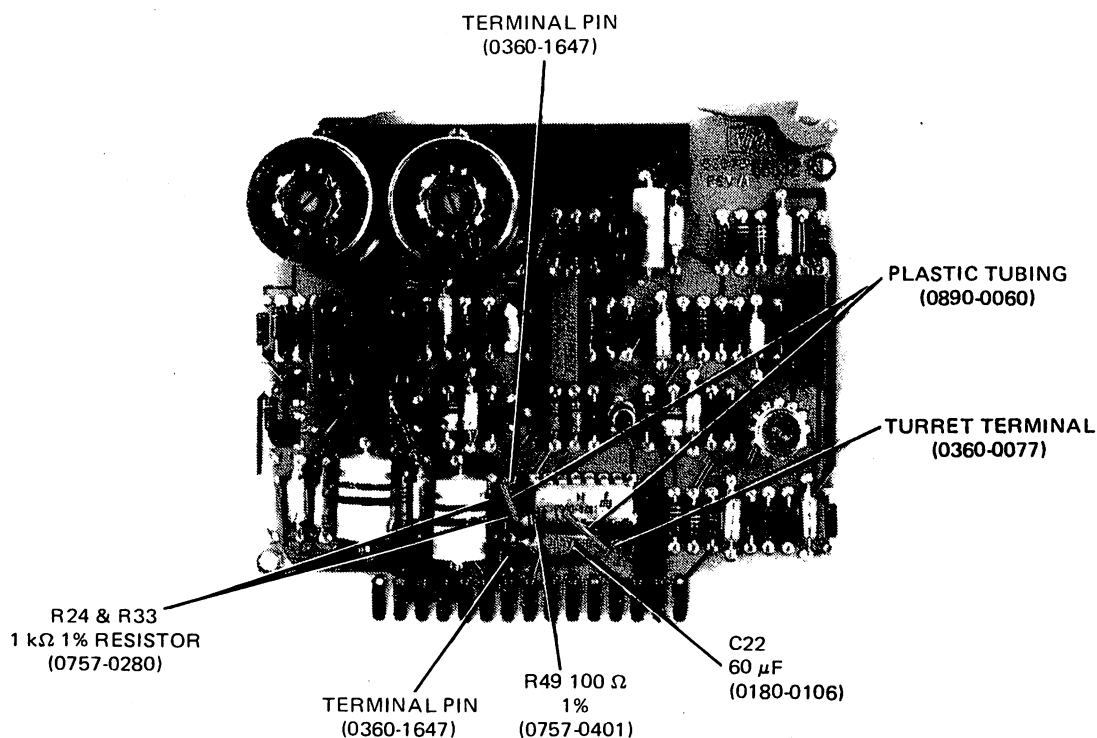

Figure 1. Modified Mixer/IF Amplifier
7. All Rev. A Mixer/IF Amplifier Boards should now appear as in Figure 1. All Rev. B Mixer/IF Amplifier Boards should be modified as described previously.